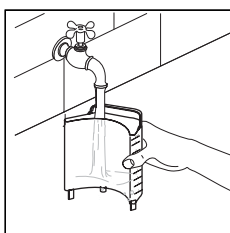

fig. 2
- Fill the tank with fresh, clean water up to the level marker corresponding to the number of cups of coffee being prepared, making sure not to exceed the MAX mark (Fig. 2).